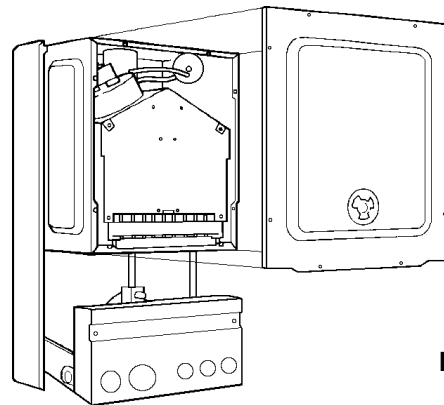

Fig. 25
8.5 Room Sealed Chamber Front Cover Part No. 5904 Refer to fig. 25
8.5.2 Remove room sealed front cover plate by releasing eight screws fig. 25) and easing cover off. The screws are not captive. Inspect gasket for damage. If damaged, replace.